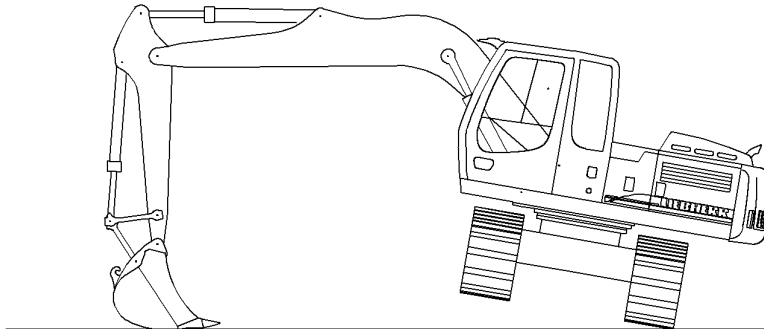

Fig. 5-70 Raising the machine
- ▶ A lateral shoring thanks to the work equipment, enables to raise one side of the travelling mechanism in order to clean the track chain (see Fig. 5-70).